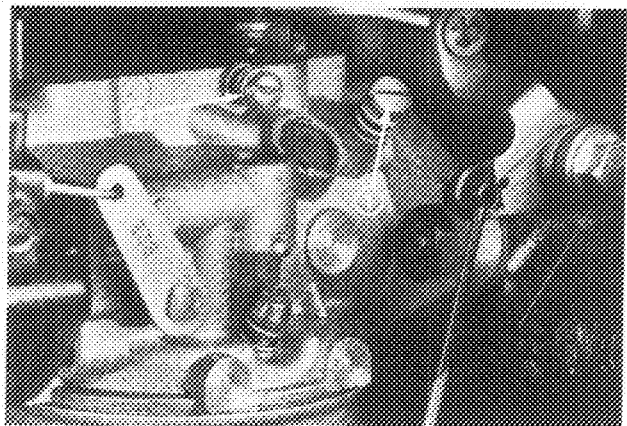

Figure 24
3. Pull firmly on choke cable and tighten cable clamp screw (Fig. 24).
1. **Idle Fuel Adjusting Needle** (Fig. 24) — Close needle by gently rotating it clockwise.
2. Rotate — open — the needle 1 turn counterclockwise (Fig. 24).
4. **Idle Speed Setting** — Move the throttle control to SLOW setting. Set the idle speed to 1200 rpm \pm 75 RPM by turning the idle speed adjusting screw in or out (Fig. 24). Check speed with a tachometer.